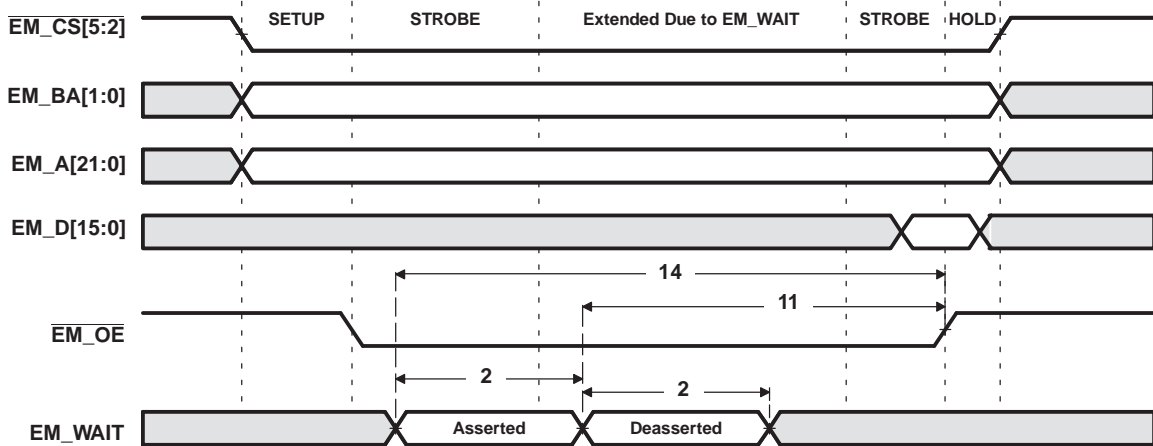
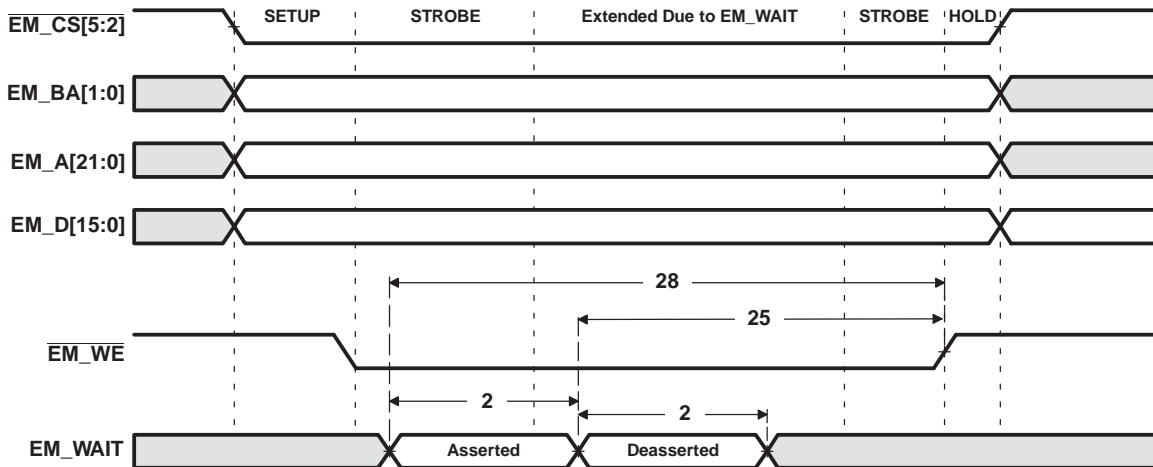

Figure 6-21. EM\_WAIT Read Timing Requirements
Figure 6-22. EM\_WAIT Write Timing Requirements
- (1) E = SYSCLK5 period in ns for EMIFA. For example, when SYSCLK1 is 540 MHz, use E = 11.11 ns.
(2) Setup before end of STROBE phase (if no extended wait states are inserted) by which EM\_WAIT must be asserted to add extended wait states. Figure 6-21 and Figure 6-22 describe EMIF transactions that include extended wait states inserted during the STROBE phase. However, cycles inserted as part of this extended wait period should not be counted; the 4E requirement is to the start of where the HOLD phase would begin if there were no extended wait cycles.